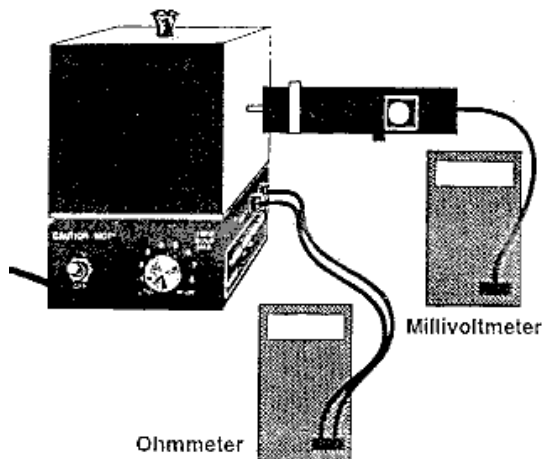

Figure 1.1: Thermal radiation setup
1. Connect the two multimeters and position the sensor as shown in Fig. 1.1. The multimeter attached to the cube should be set to read resistance while the one attached to the infrared radiation sensor will monitor the potential (in the millivolt range). Make sure the shutter on the sensor is pushed all the way open!